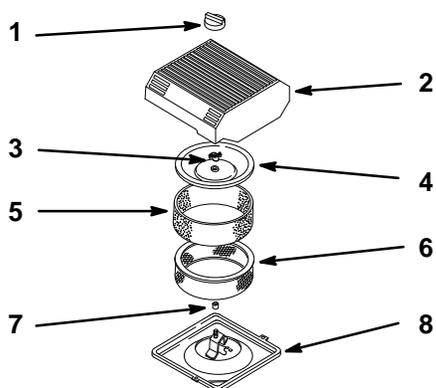

Figure 23
2. Clean around the air cleaner to prevent dirt from getting into the engine and causing damage. Unscrew the knob and remove the air cleaner cover (Fig. 23).
3. Carefully slide the foam element off the paper element (Fig. 23).
4. Unscrew the cover nut and remove the cover and paper element (Fig. 23).
1. Carefully slide the foam element onto the paper air cleaner element (Fig. 23).
2. Place the air cleaner assembly onto the air cleaner base (Fig. 23).
3. Install the air cleaner cover and secure with cover nut (Fig. 23).